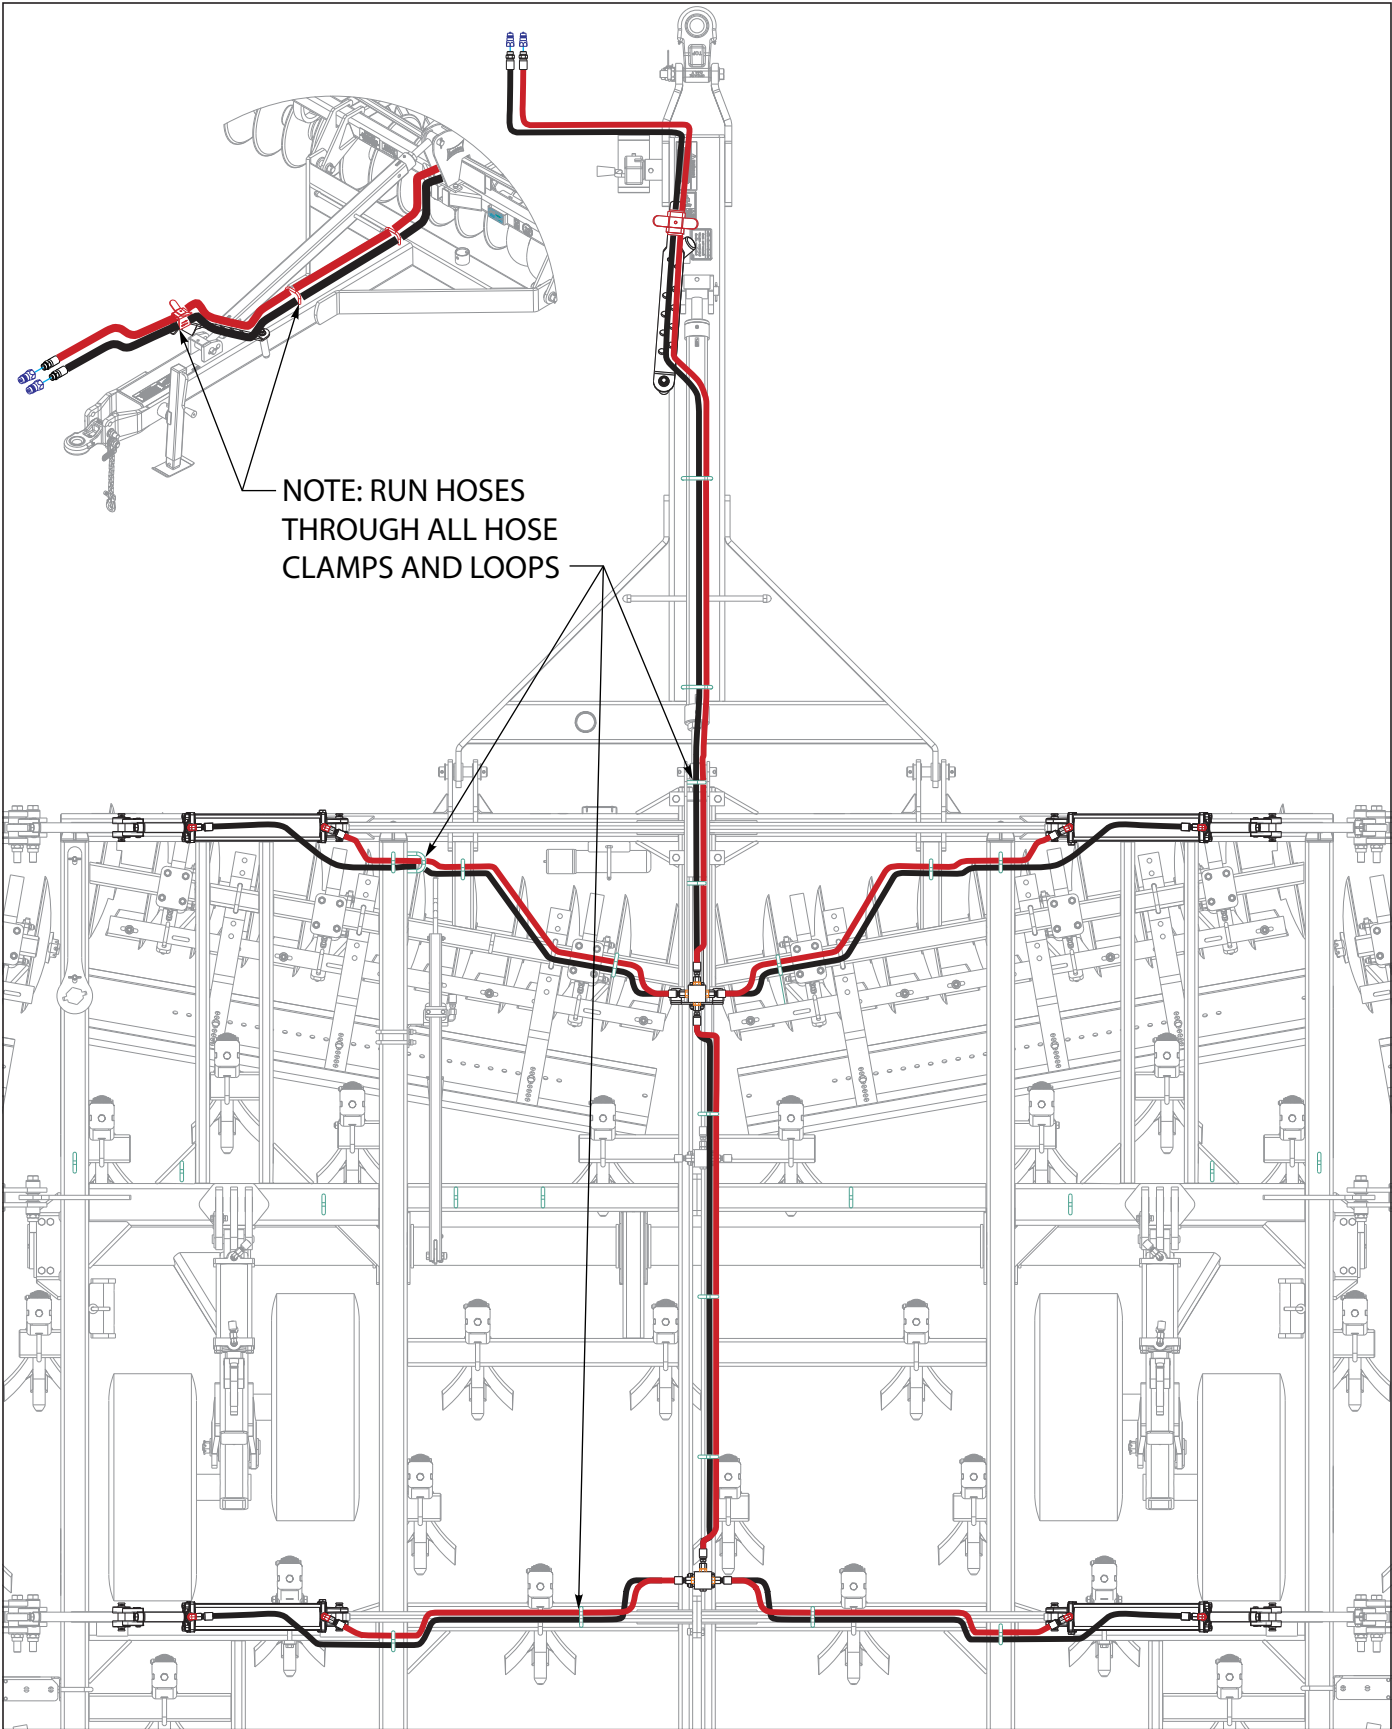

Figure 3-25: Hydraulic Fold Placement 877-30'
7. *See Figures 3-25 through 3-26* for proper hose routing.